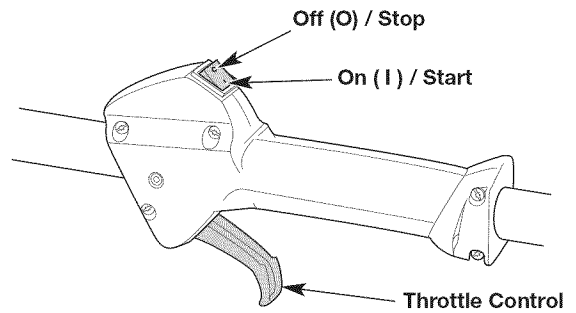
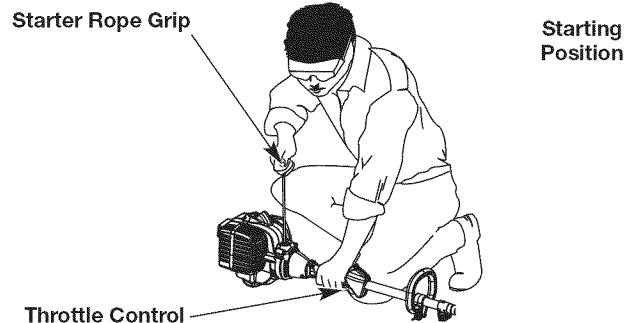

Fig. 4
Fig. 6
WARNING: Avoid accidentally starting the unit. To avoid serious injury, the operator and the unit must be in a stable position when pulling the starter rope (Fig. 6).
NOTE: There is no need to turn the unit on. The On/Off switch is in the ON (I) position at all times (Fig. 4).
5. Crouch in the starting position (Fig. 6).
6. Squeeze the throttle control (Fig. 4) and pull the starter rope with a controlled and steady motion **5 times** (Fig. 6).
2. Press and hold the On/Off switch in the OFF (O) position until the engine comes to a complete stop (Fig. 4).